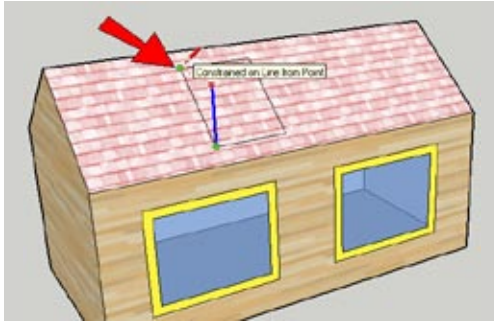

Figure 5-16
3. With Shift still pressed, hover over any point along the back edge of the dormer rectangle. This sets the height of the dormer wall to match the height of the back edge of the rectangle. The inference should read *Constrained on Line from Point* (Figure 5-16).